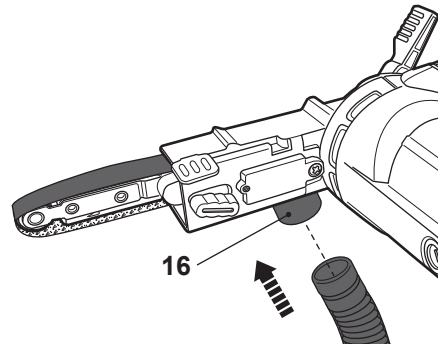

Fig. 12
Alternatively a dust extraction system or suitable vacuum cleaner can be connected to the dust extraction outlet (16) for a cleaner and safer work area (Fig. 12).